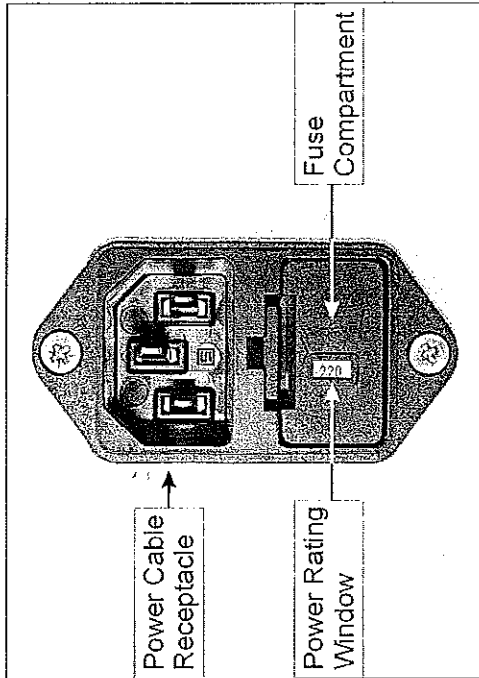

Figure 4
2. Connect one end of the power cable to the compressor's power cable receptacle (see Figure 4) and the other end to a normal electrical outlet.
The compressor is surge-protected with two 1.0 Amp, 5x20mm glass-tube fuses. The fuses are located in the fuse compartment under the power cable receptacle (see Figure 4).